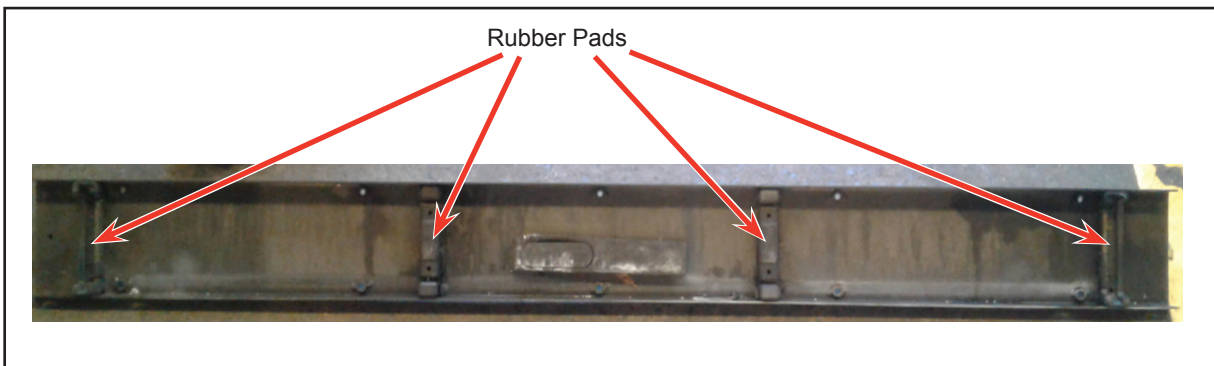

Figure 9 - Typical View of Radiator Frame Rubber Pads
- 1.26. Inspect the rubber pads present within the frame that are used to mount the radiator (see Figure 9).